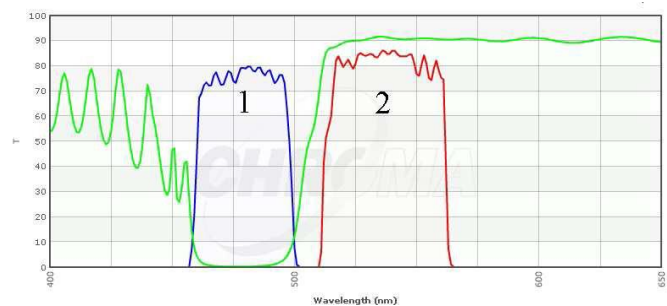

Figure 7. FITC filter spectrum. 1 = excitation band, 2 = emission band
Filters you will use for Lab on chip session are called FITC (Figure 7) according to the traditional fluorochromes that were earlier commonly used for green and red fluorescence. In the figure, the blue (1) curve shows the excitation i.e. the wavelengths that illuminate the sample. The red (2) curve shows the emission i.e. the wavelengths that are shown to the viewer.